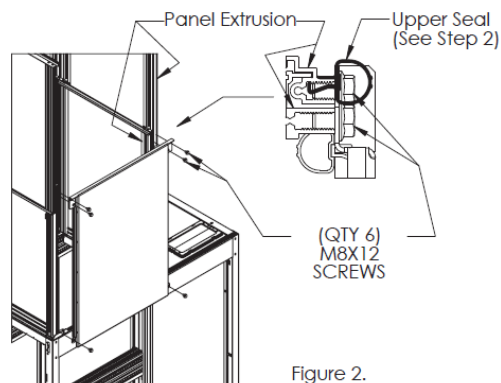

Figure 2.
- QTY(10) M8x12 Serrated Flange Screw
1. Attach the lower panel (with 6 slots) to the containment extrusion channels using 6 of the provided M8x12 serrated screws as shown in Figure 2.